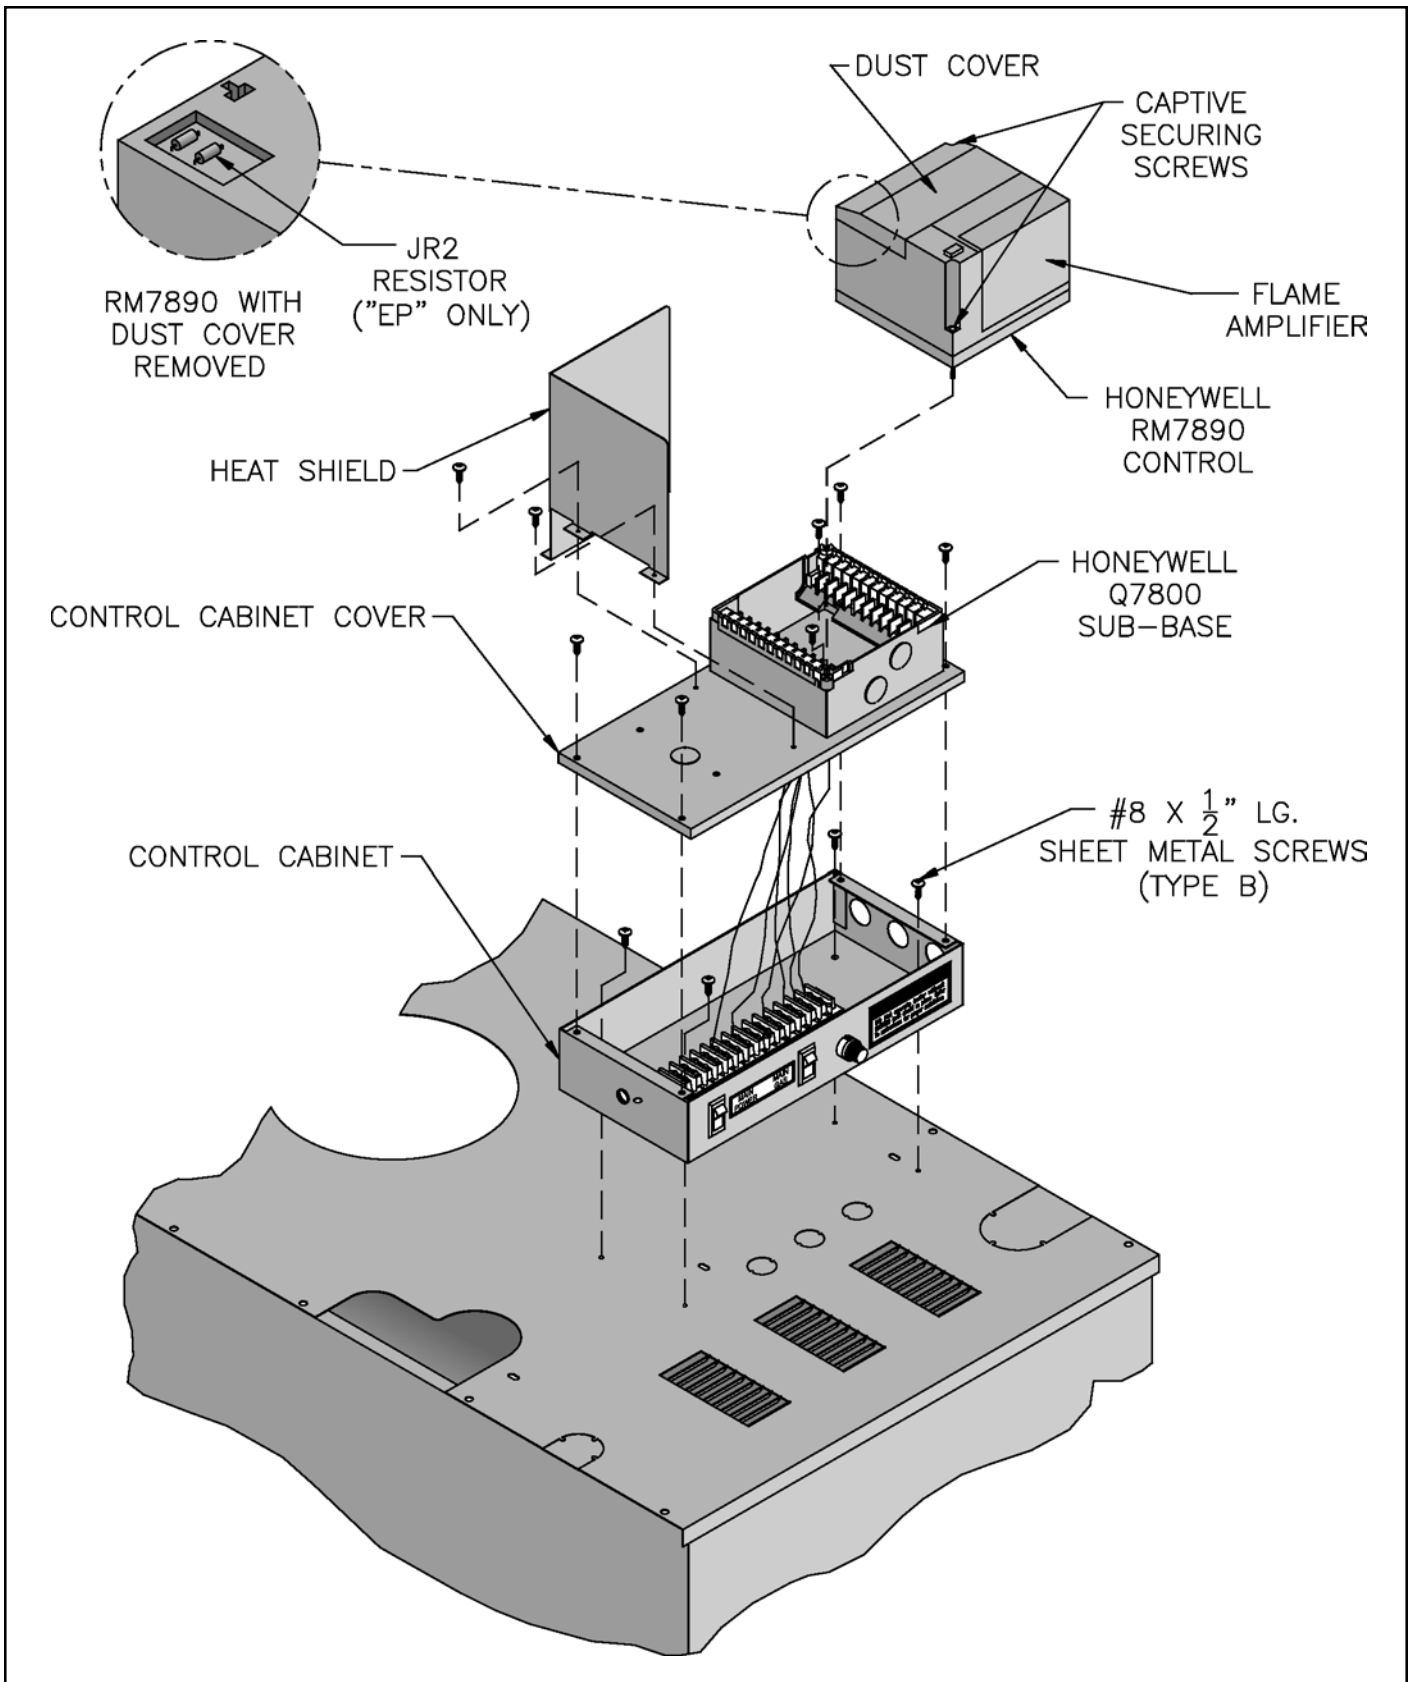

Figure 9: EP/OP Control Installation
S. EP and OP System: See Figure 9.